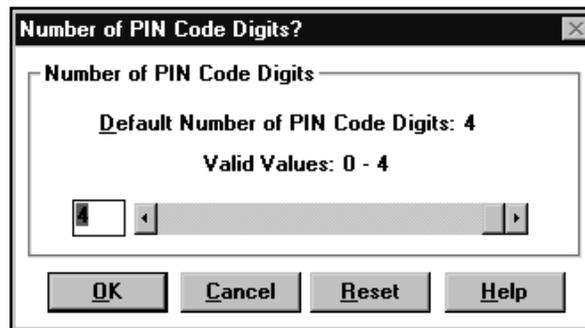

FIGURE 106. Example of Number of PIN Code Digits dialog box
1. To select the maximum number of digits a valid PIN number can contain, select Num PIN Code Digits in the configuration window. (See Figure 106.)